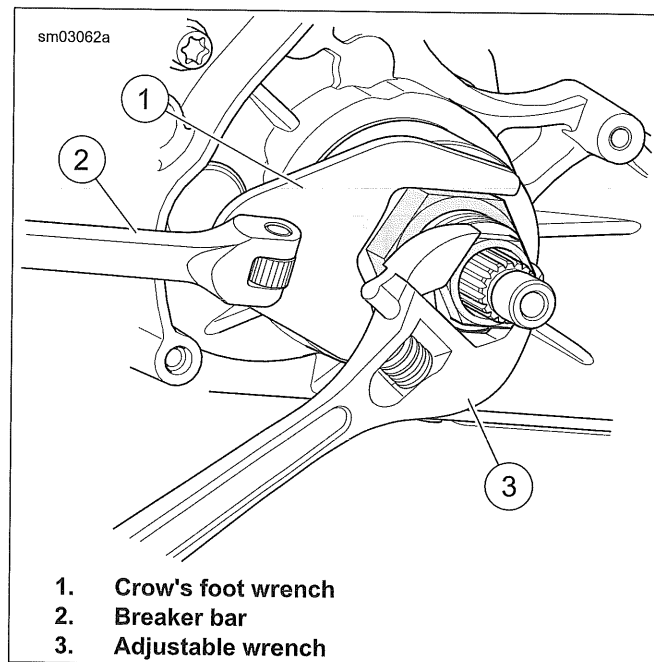

Figure 5-67. Press Seal into Crankcase
5. See Figure 5-67. Install **new** main drive gear large seal using MAIN DRIVE GEAR SEAL INSTALLER KIT (PART NUMBER: HD-47856).